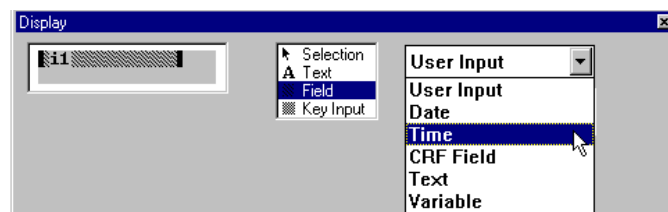

Figure 2-53 Field Pop-up Menu
7. Select another option from the **Field** pop-up menu. We will select **Time** in this example (Figure 2-53).